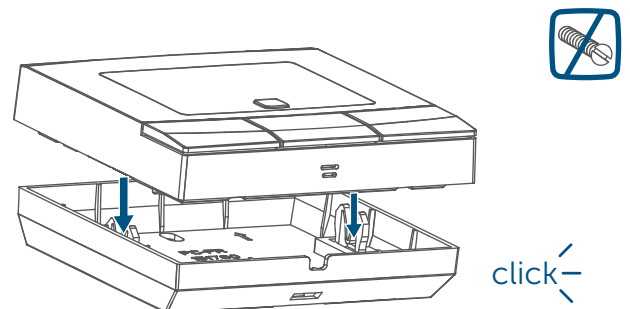

Figure 7
- Insert the electronic unit (A) into the mounting plate (see figure 7). Make sure that the electronic unit properly engages into the mounting plate.